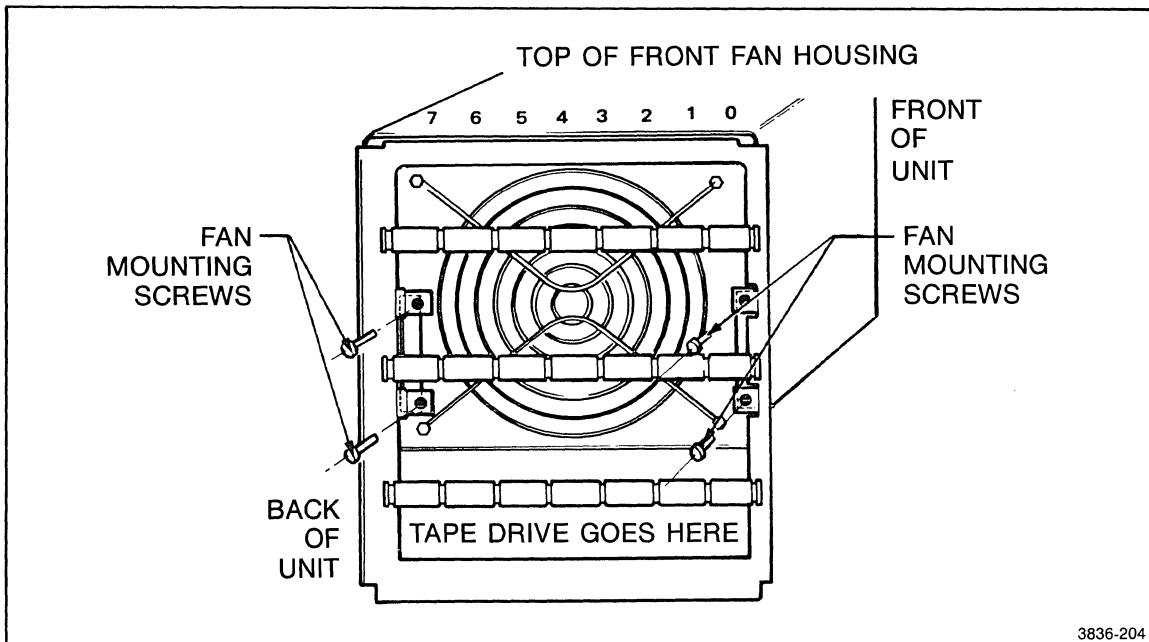

Figure 6-19. Location of the screws that attach the front fan to the mainframe (COLOR ONLY).
2. Remove the four screws (6-32 x 0.250) securing the fan to mainframe (refer to Figure 6-19). These screws are accessed through the instrument module compartment.